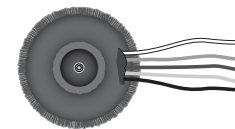

Figure 5.3 T-170V
**T-170V:** See Figure 5.3. This is an autoformer that allows 100V output from the CTs 600/1200, and allows other amplifiers without direct constant voltage output to be easily integrated into distributed systems.